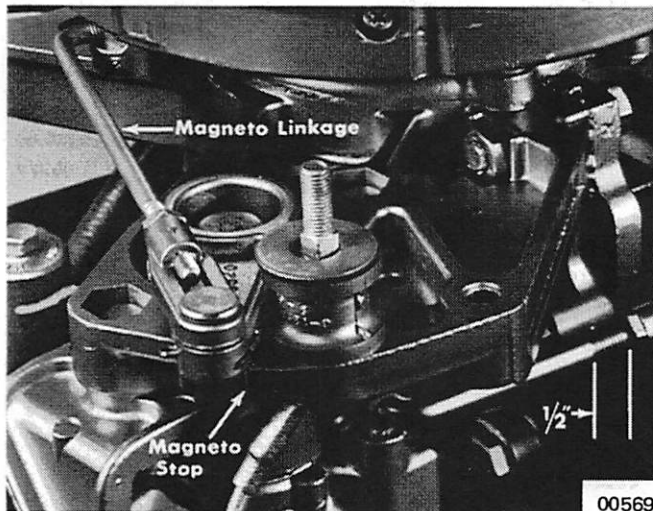

Figure 1. Magneto Stop and Linkage
- Advance magneto slowly against magneto stop. (Figure 1) At this time the breaker points should open as indicated by meter used. If the breaker points did not open (or opened before touching magneto stop), adjust linkage (Figure 1) and tighten locknut.